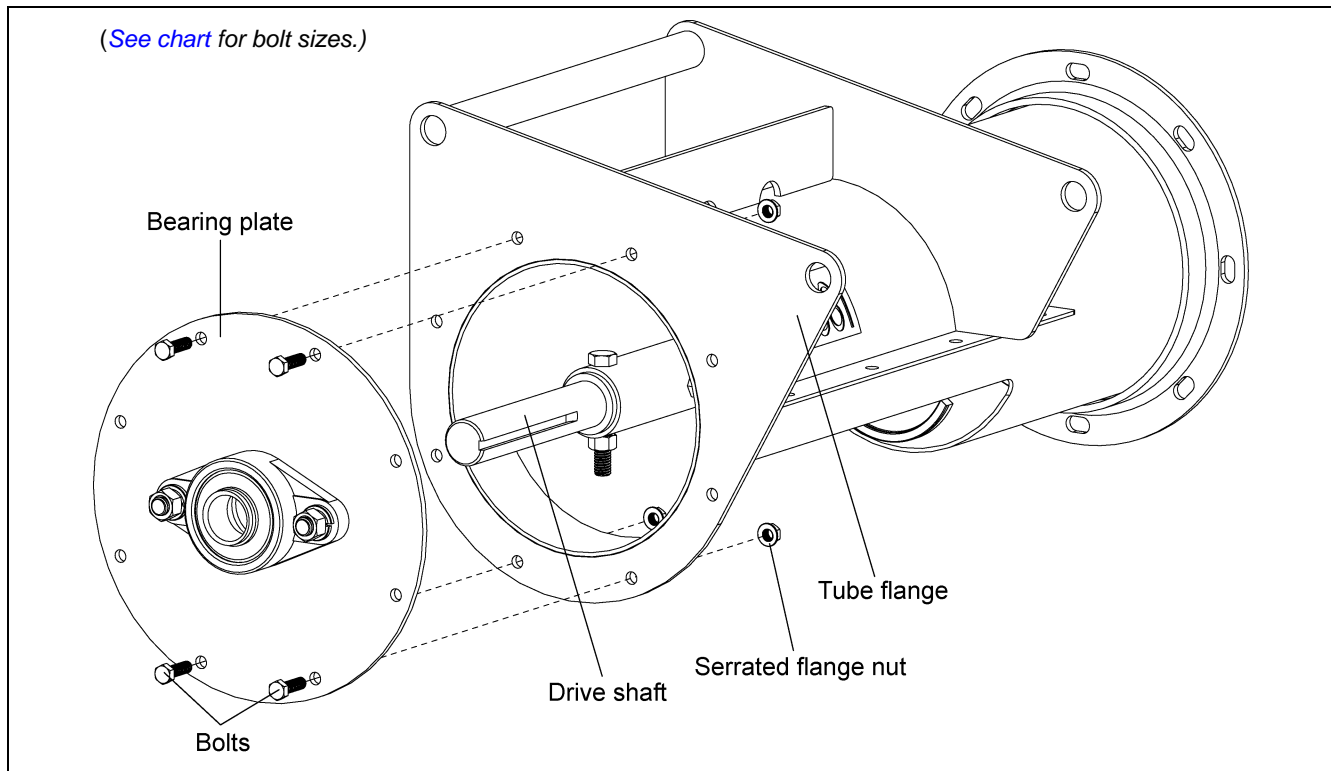

Figure 4D
3. Only secure with upper and lower four (4) bolts. (See Figure 4D.) The other four (4) bolts will be installed later with the belt guard mounting brackets.
**NOTE:** On the 10" and 12" systems, use the four (4) 3/8"-16 x 1" bolts in this step. The longer bolts will be used to attach the belt guard mounting brackets in a future step.